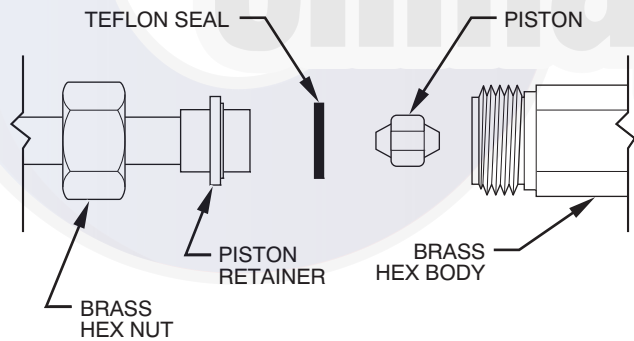

Fig. 26 - Refrigerant Flow-Control Device (For FB and FMA4P)
2. Recover remaining refrigerant from tubing and coil through gage port on vapor-tube service valve. Disconnect refrigerant (liquid) tube from piston body. (See Fig. 26.)